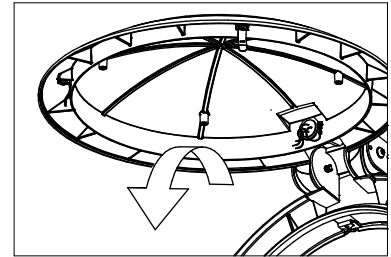

FIG. 1-2
2. REMOVE AND DISCONNECT EXISTING INSTALLED REFLECTOR ASSEMBLY, IN ADDITION TO ANY BRACKETS AND HARDWARE SO THAT (4) BOSSES REMAIN UNOBSTRUCTED. (FIG. 1-2)